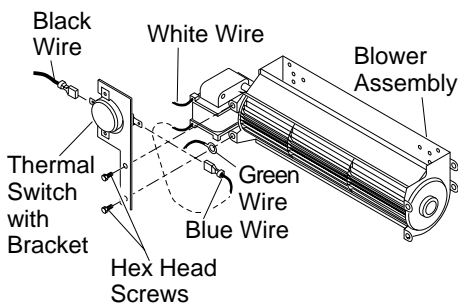

Figure 15 - Attaching Thermal Switch to DA3610T Thermostatically-Controlled Blower Accessory
1. Remove the two hex head screws on the blower assembly as shown in Figure 15.